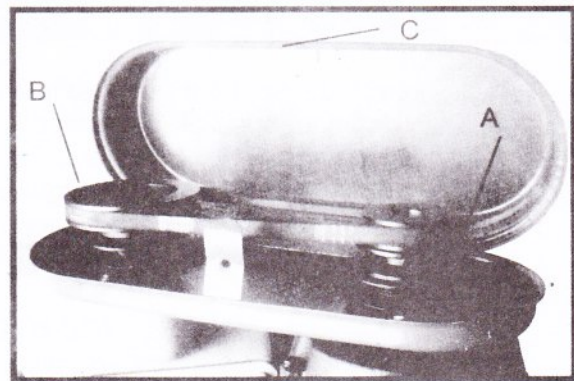

Fig. 19
When changing speeds, release belt tension and open belt and pulley guard cover (C) Fig. 19. Speed rates of 23, 34 and 54 meter per minute are available with your metal band saw. When the belt is on the largest step of the motor pulley (A) Fig. 19, and the smallest step of the gear box pulley (B) the blade speed will be 54 meter per minute. When the belt is on the smallest step of the motor pulley (A) and the largest step of the gear box pulley (B) the blade speed will be 23 meter per minute. When changing speeds, first release belt tension. After the desired speed is obtained, adjust belt tension and close belt and pulley guard cover (C).